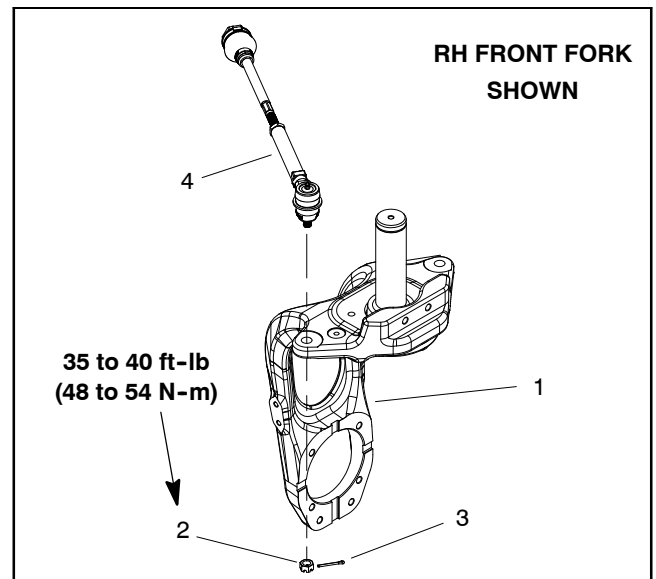

Figure 25
5. Remove cotter pin and slotted hex nut that secure tie rod end to the steering fork (Fig. 25). Separate tie rod end from the steering fork.
- A. Remove two (2) cap screws (item 34) that secure bulkhead bracket (item 23) to steering fork.
- B. Remove four (4) cap screws that secure wheel motor to steering fork. Slide wheel motor assembly (with wheel hub and hydraulic lines attached) from steering fork. Carefully, position wheel motor away from steering fork taking care to not damage hydraulic lines.